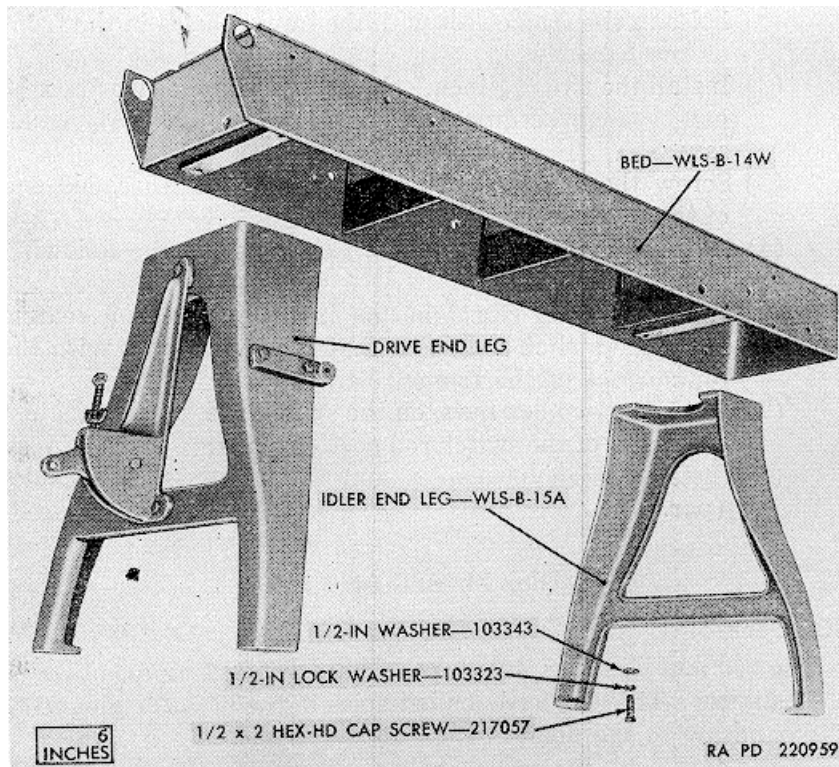

Figure 46. Legs removed from bed.
The bed and legs (fig. 46) are the main supporting members of the bandsaw. The legs have drilled holes in the base for mounting the bandsaw to the floor.
- h. Place the bandsaw on its side, on the floor and remove the four hex-head cap screws, four lockwashers, and four washers (fig. 46) from the inside of the drive end leg and idler end leg.
- i. Remove the legs from the bed (fig. 46).
- a. Place the bed on the floor, on its side, and align the tapped holes in the bottom of the bed with the holes in the top of the drive and idler end legs as in figure 46.
- b. Install two 1/2-inch washers (fig. 46), two 1/2-inch lockwashers, and two 1/2 x 2 hex-head cap screws through each leg. Tighten securely.